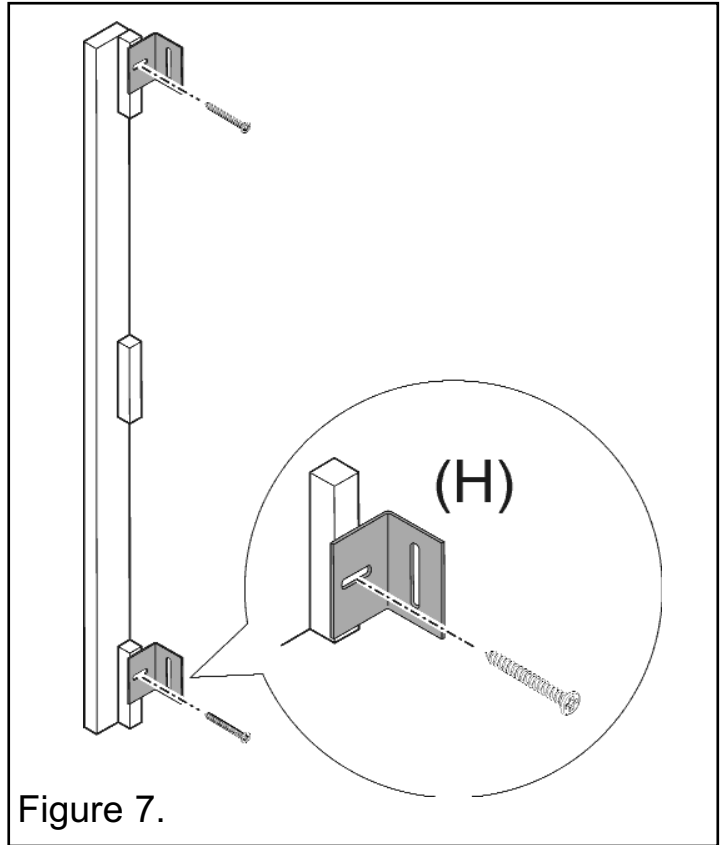

Figure 7.
- The surround is supplied with four brackets (H) that are for securing the two longer infill strips to the wall behind the back panel. This should aid with the installation of electric heaters. Secure the brackets to the strips as in figure 7 using the screws used previously to secure the strips to the surround. The slots in the brackets must be as in figure 7 to allow adjustments to be made.
- Place the wall fixing brackets (K) 110mm from the top of the surround as shown in figure 7. Secure in place using six (L) screws.